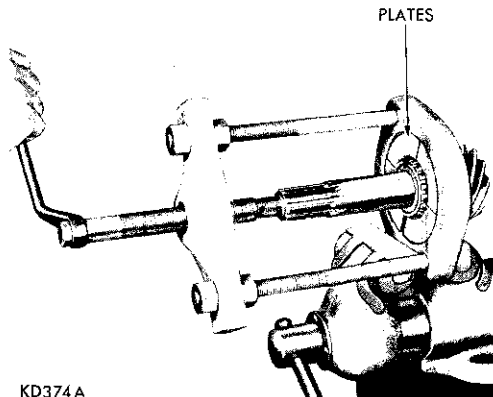

Fig. 18—Removing Drive Pinion Rear Bearing
(1) When removing the pinion rear bearing (Fig. 18) on a Chrysler Newport carrier use Tool C-293 and four (4) No. 36 adaptors. On all other Chrysler and Imperial models, use Tool C-293 and four (4) No. 37 adaptors.
(2) The drive pinion bearing cups can be removed from the carrier with a blunt brass drift and hammer.